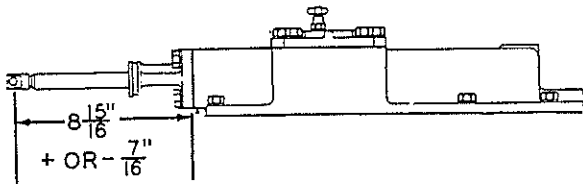

Fig. 2A -- Spool Valve "Standout" Dimension (T-41915)
- b. Push spool valve in to contact piston; rotate bottom end of actuating shaft by hand to push spool valve out to obtain a dimension of  $8 \frac{15}{16}$ " (+ or -  $\frac{7}{16}$ ") standout from front machined face of control valve housing to center of hole in front end of spool (refer to Fig. 2A).